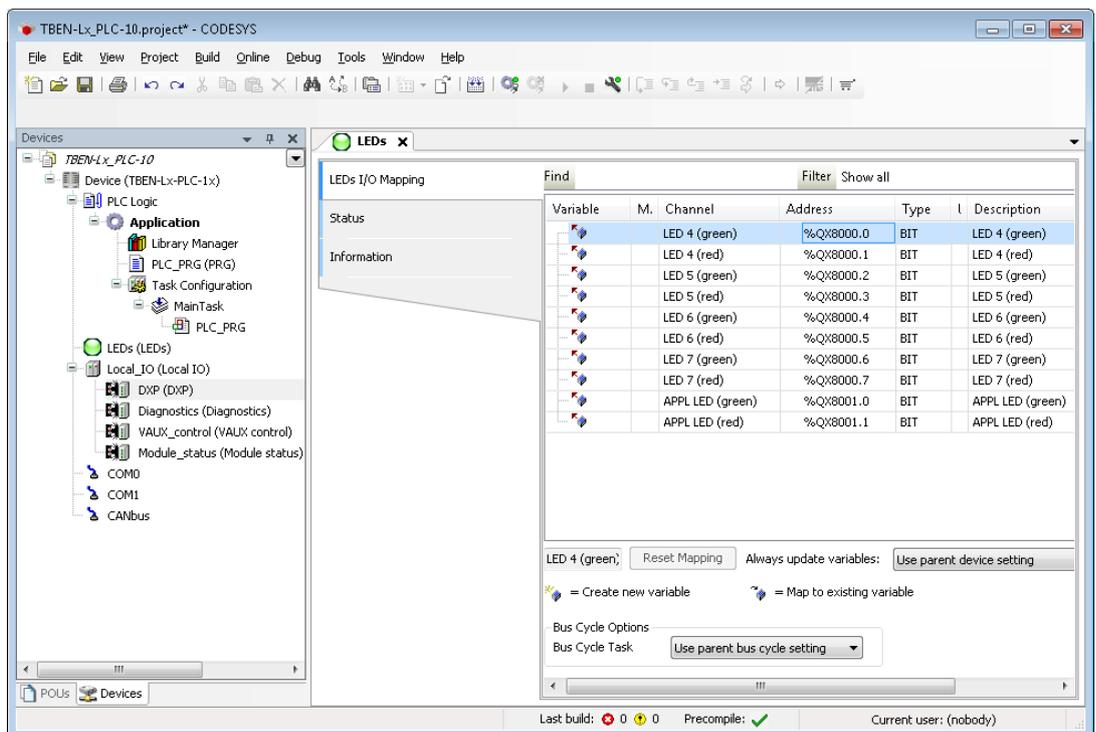

Fig. 42: CODESYS project
- Each LED uses 2 bit in the process output data of the device. They are automatically mapped to the output bits %QX8000.0 to %QX8001.1 (see **Fig. 42: CODESYS project (page 54)**).